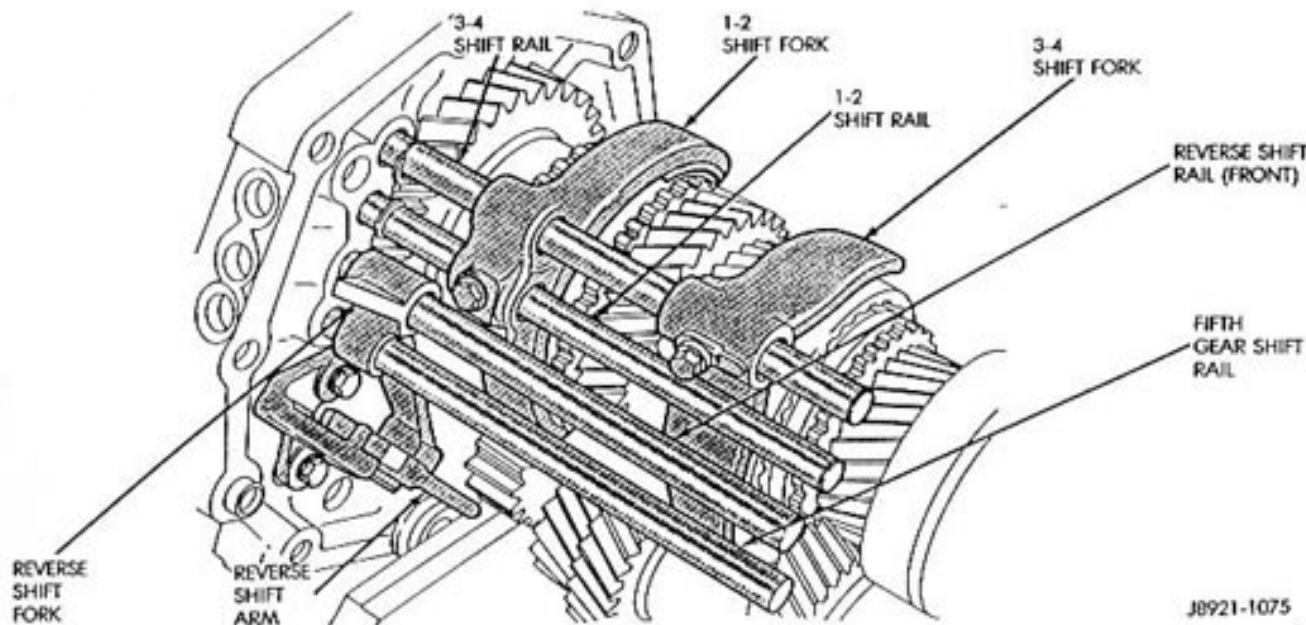

Fig. 41 Shift Rail Identification
There are a total of five shift rails in the AX 15 transmission. The 1-2, 3-4, fifth gear and front reverse shift rails are shown in Figure 41. Two shift rails are used for reverse gear range. The front reverse rail is at the forward side of the intermediate plate (Fig. 41). The short rear reverse rail and reverse shift head are at the rear side of the intermediate plate.
(1) Remove the fifth gear shift rail (Fig. 41). Catch the lock ball in your hand as the rail comes out of the intermediate plate.